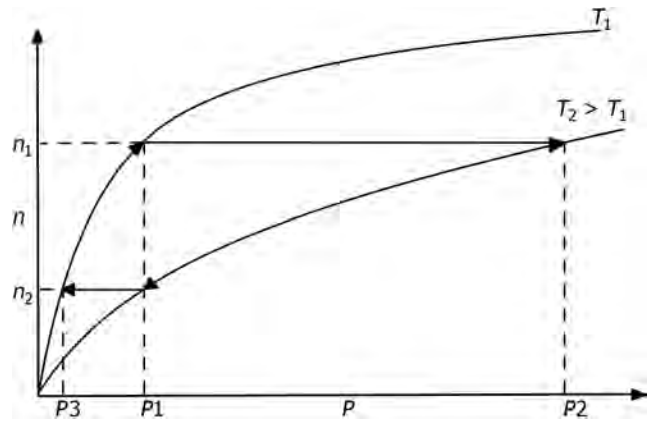

FIGURE 18.38 Temperature swing adsorption.
- Figure 18.38 illustrates thermal swing adsorption process.